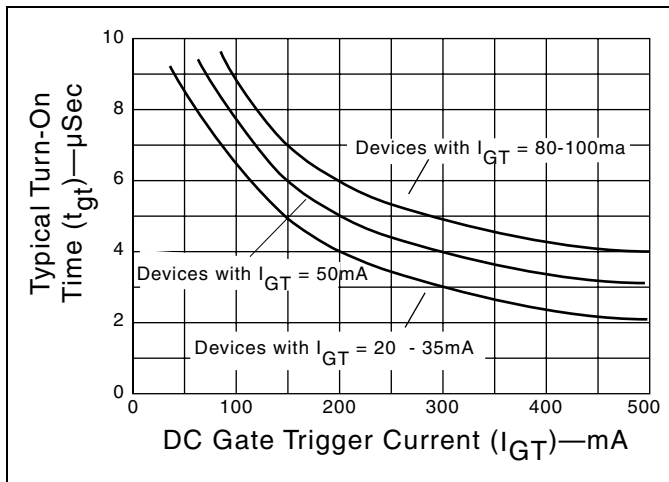

Figure 4.12 Turn-On Time vs Gate Trigger Current (Typical)
- (10) See Figure 4.12 for t_{gt} vs I_{GT} .
- (11) See package outlines for lead form configurations. When ordering special lead forming, add type number as suffix to part number.
- (12) Initial on-state current = 400 mA(DC) for 16-40A devices and 100mA for 6-12 Amp devices.